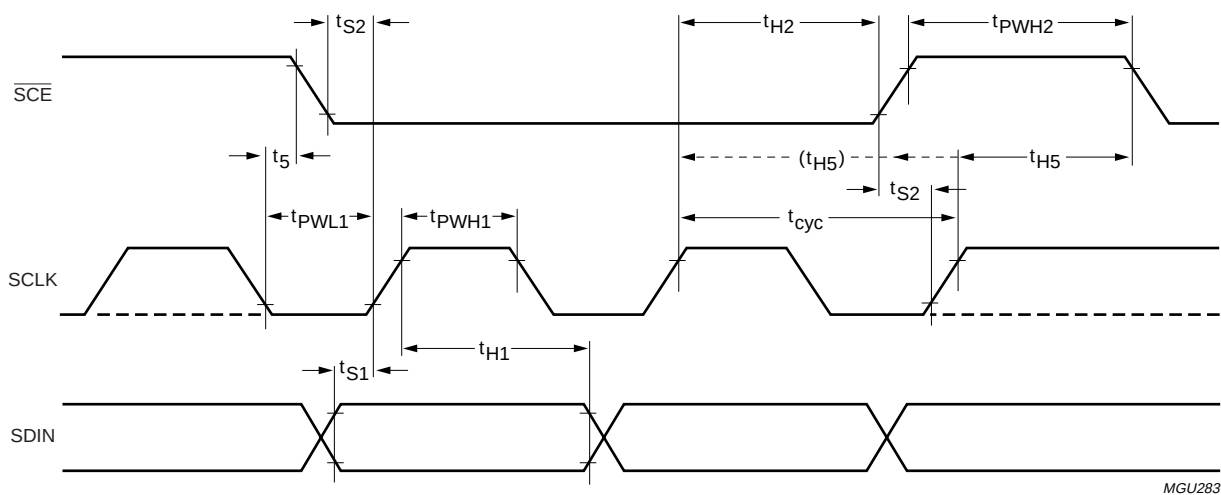

Fig.16 Serial interface timing: write mode.
- t_{H5} is the time from the previous SCLK rising edge (irrespective of the state of $\overline{SCE}$) to the falling edge of $\overline{SCE}$ (see Fig.16).